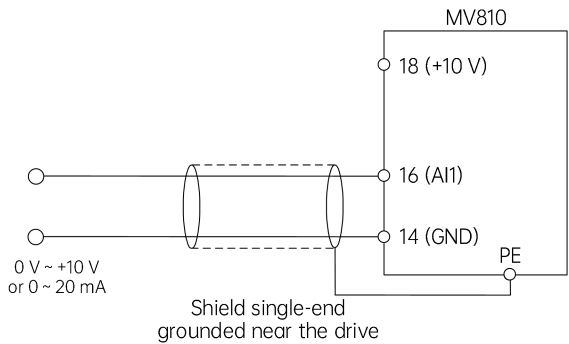

Fig. 4-5 Terminal 16 single-ended input wiring
- (1) Terminal 16 receives the single-ended input of analog voltage or current. The voltage or current input type can be selected through the thousands place of P09.01. The wiring method is shown in Fig. 4-5: